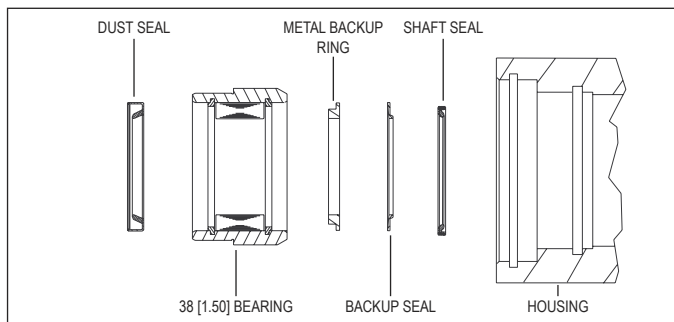

FIGURE 1
- D) Place shaft (26) assembly into housing (14). Install dust seal (1) over shaft (26) with lip facing up (see figure 1) and carefully press the seal down to seat it in the bearing (11). Place bearing spacer (10) over shaft (26) and push down until snap ring groove is visible. Install retaining snap ring (9) into groove in housing pilot (14). (Note: it may be necessary to lightly tap the retaining snap ring (9) and bearing spacer (10) to allow the retaining snap ring (9) to seat properly.) Replace all shaft related components (i.e. keys, wire rings, nuts).